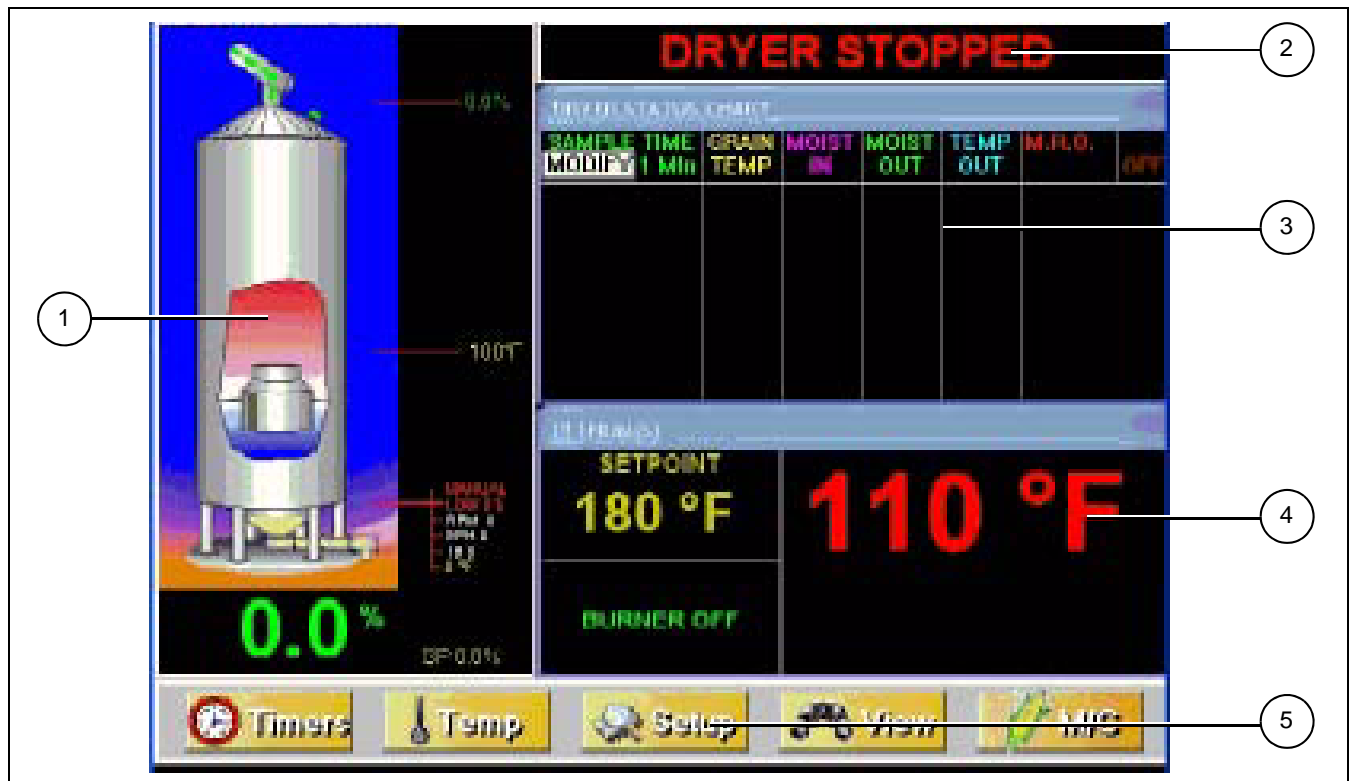

Figure 6B
1. **Table view:** Default operation screen view. (See Figure 6B on Page 31.)
6. Press  then  to return to the operation screen. (See Figure 6B on Page 31.)
4. Press  then  to return to the operation screen. (See Figure 6B on Page 31.)